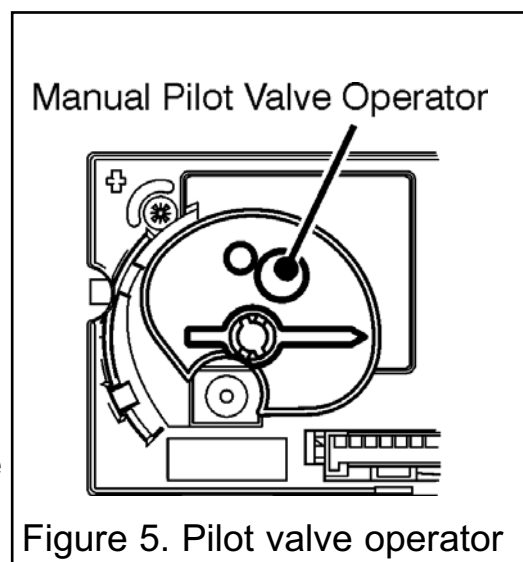

Figure 5. Pilot valve operator
3. The 'manual knob' is the knob on the left hand side (See figure 5). Turn this knob to the 'OFF', fully clockwise  position.
5. Wait five (5) minutes to clear out any gas. Then smell for gas, including near the floor. If you smell gas **STOP!** and follow the safety information below.
7. With the 'manual' knob in 'MAN' position a manual pilot valve operator is accessible (See figure 5).